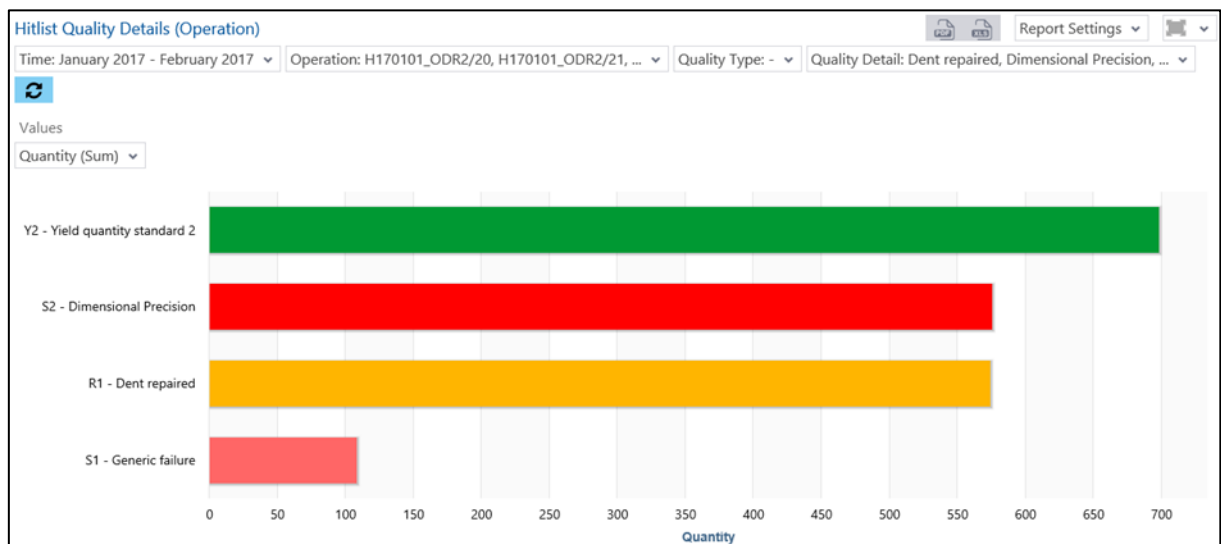

Fig. 133: Hit list quality details (operation) as a bar chart
- Hit list quality details (operation) as a bar chart (fig. 133):